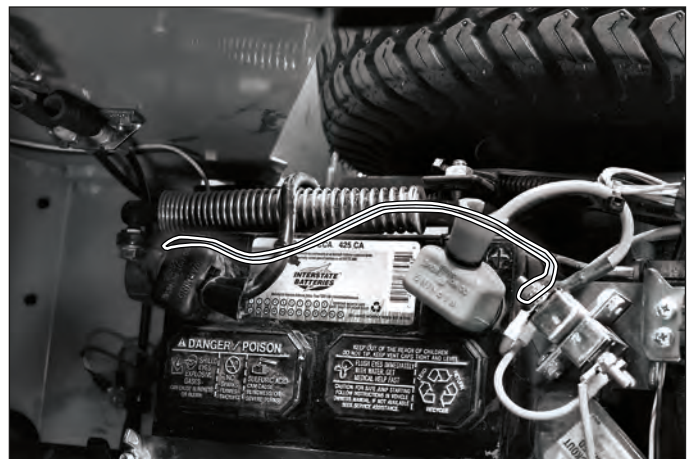

Figure 1.3
6. Connect the harness red wire to the load side of the circuit breaker mounted on the bracket behind the battery (figure 1.3)